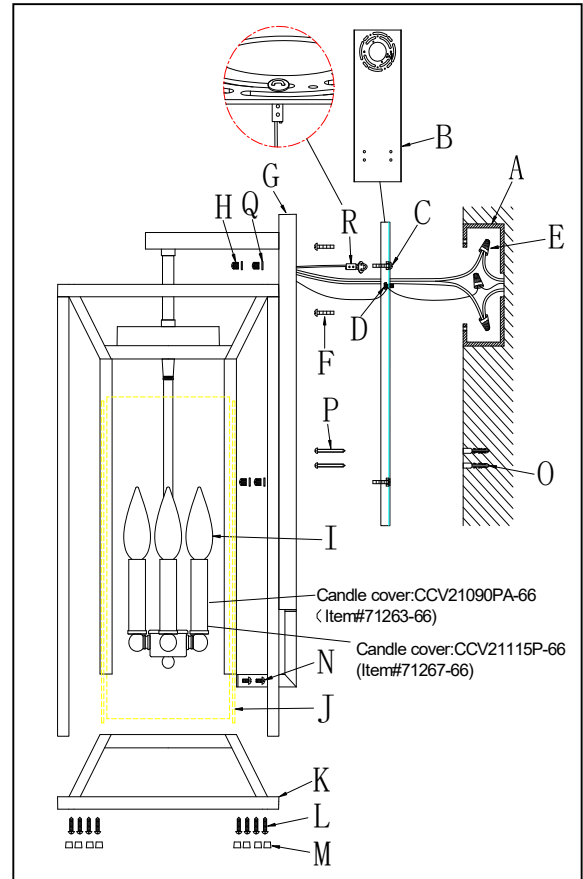

Fig.2
## CONNECTING THE WIRES (Fig. 2)
6. Connect the electrical wires as shown in Fig 2. with connectors (E), making sure that all wire connectors are secured. If your outlet box has a ground wire (green or bare copper), connect the fixture's ground wire to it. Otherwise, connect the fixture's ground wire directly to the mounting plate (B) using the green screw (D) provided. After the wires are connected, carefully tuck them inside the outlet box.